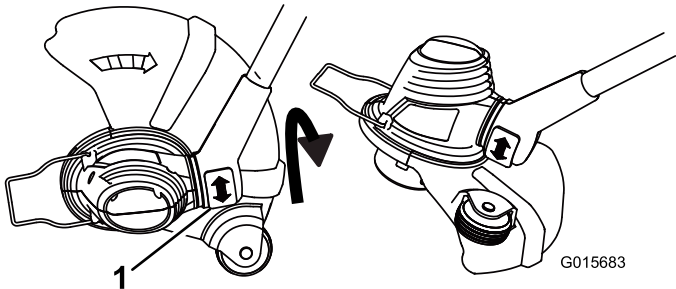

Figure 12
- To adjust the orientation of the base, press down on the rotator button located at the base of the shaft, then move the base to face the desired direction (Figure 12).